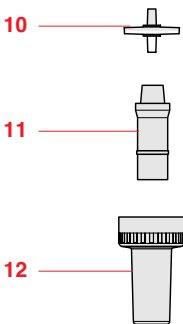

Fig. 6
- Push a new **filter** into the adapter and then reassemble the device (Fig. 6). Check the device for leaks (see Sec. 9).